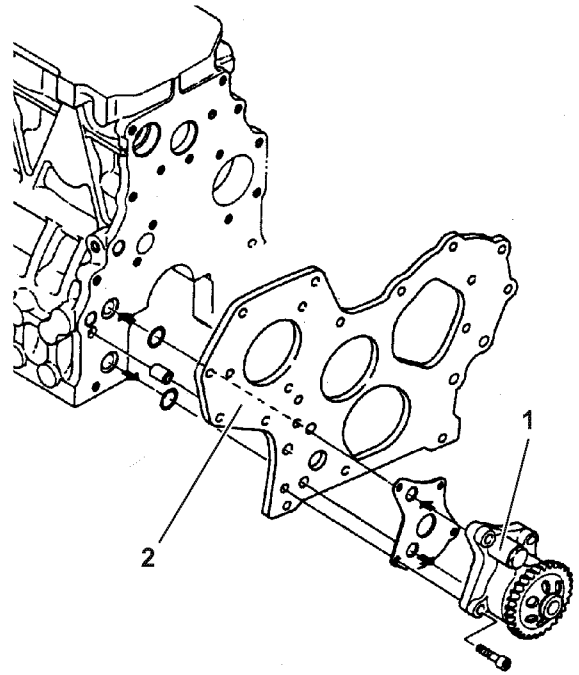

Figure 9-5
2. Remove the lubricating oil pump assembly mounting bolts. Remove the lubricating oil pump assembly (**Figure 9-5, (1)**) from the gear case flange (**Figure 9-5, (2)**).